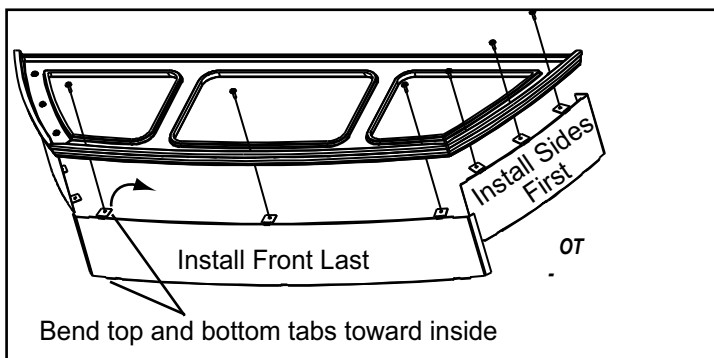

Figure 18.1
4. Lay 1 cast ring face up, which will become the bottom ring when installed. Attach the 2 sides FIRST and then the front piece. **Figure 18.1.**